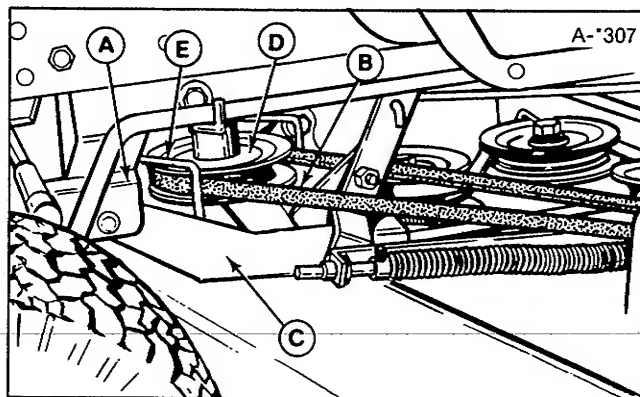
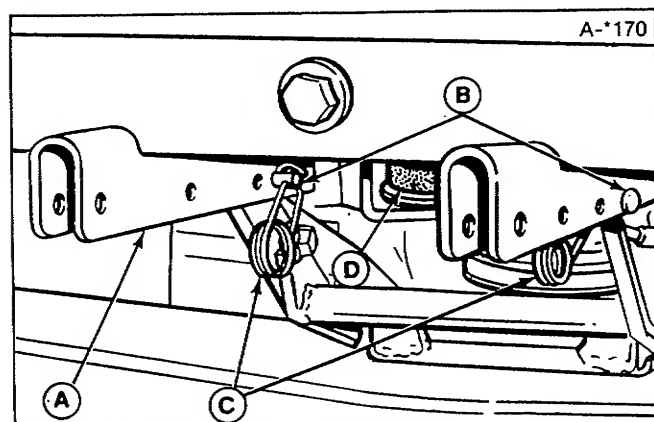
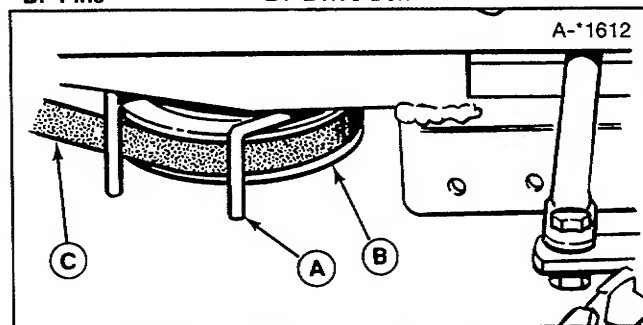

Figure 3. L.H. PTO Pulley Belt Stop
Figure 4. Mower Hitch Attached
Figure 5. R.H. PTO Pulley Belt Stop
7. Position the mower hitch arms (C, figure 3) so they are underneath the rear holes in tractor hitch (A, figure 4). Lift up one side of mower with both hands and align hole in mower hitch arm with rear hole in tractor hitch. When holes align, insert clevis pin (B) through hitch
with pin head on outside as shown in figure 4. Using a 2' x 4' wood block for support may make hole alignment easier. Go to the other side and insert the other pin. Install the two safety clips (C) in the pins.
8. Slip the mower drive belt onto the engine PTO pulley (D, figure 3). Loosen the belt stops if necessary. The left-hand belt stop is item E in figure 3. The right-hand belt stop is item A in figure 5.